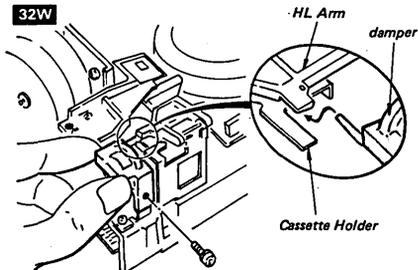

Fig. 4-7 Damper Replacement
- Remove the screw (PS2.6 x 6) which fastens tl damper to the head load ass'y, and then remove the damper. (Refer to Fig. 4-7)
- Insert the damper arm tip into between the cassette holder and HL arm, and set the damper to the head load ass'y. (Refer to Fig. 4-7)